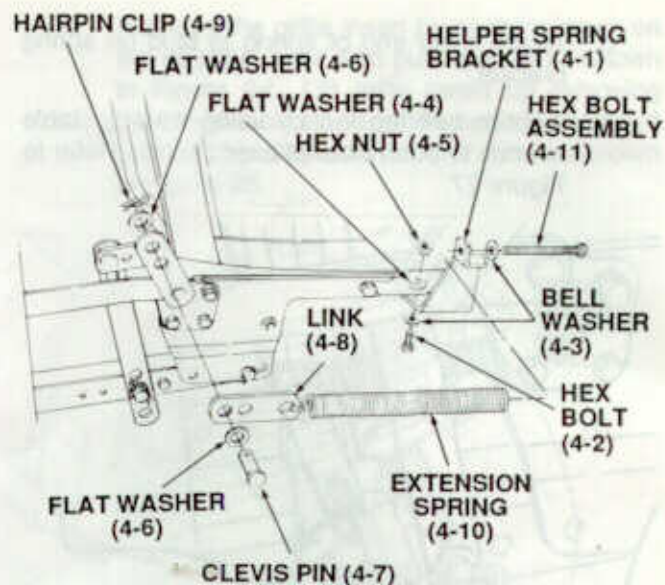

Figure 31
- b. Attach helper spring bracket (4-1) to left side of tractor frame using two hex bolts (4-2), bell washers (4-3) (cupped side against bracket), flat washers (4-4) and hex nuts (4-5). Flat washer goes between helper spring bracket and frame. Refer to Figure 31.
- d. Hook end of spring into link as shown in Figure 31. Place bell washer (4-3) onto hex bolt assembly (4-11) with crowned side of washer against head of bolt.